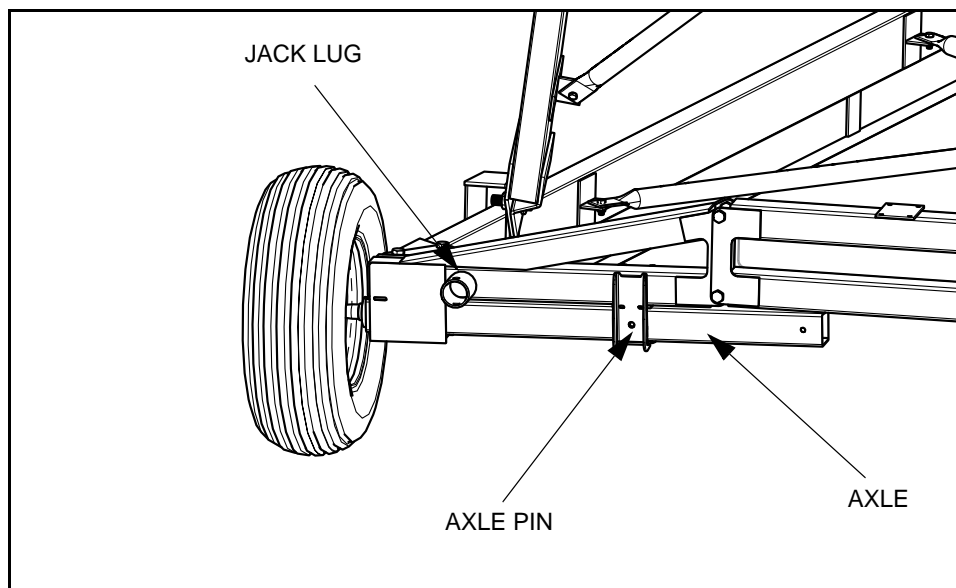

Figure 5.1 Jack Lug, Axle, and Axle Pin (Axle Retracted)
- b. Using the jack supplied, insert it into one of the jack lugs located on one end of the axle (Figure 5.1). See Figure A for jacking point. Jack must be secured to jack lug using pin (attached to jack).